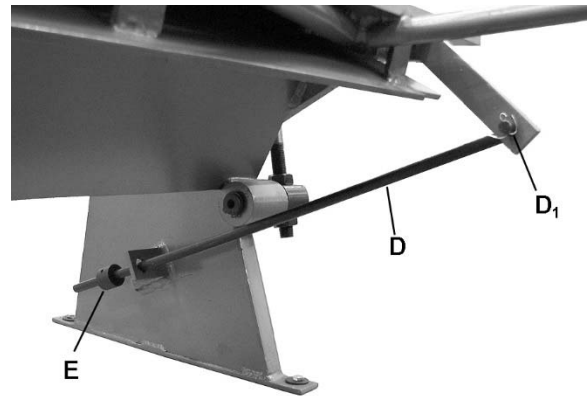

Figure 3
5. Install stop rod (D) through hole in weldment, as shown in Figure 3. Insert cotter pin (D1) at end of rod, and bend the ends to secure. Install stop collar (E) at opposite end and tighten set screw.
Adjust stop collar on stop rod (Figure 3) to limit apron swing.